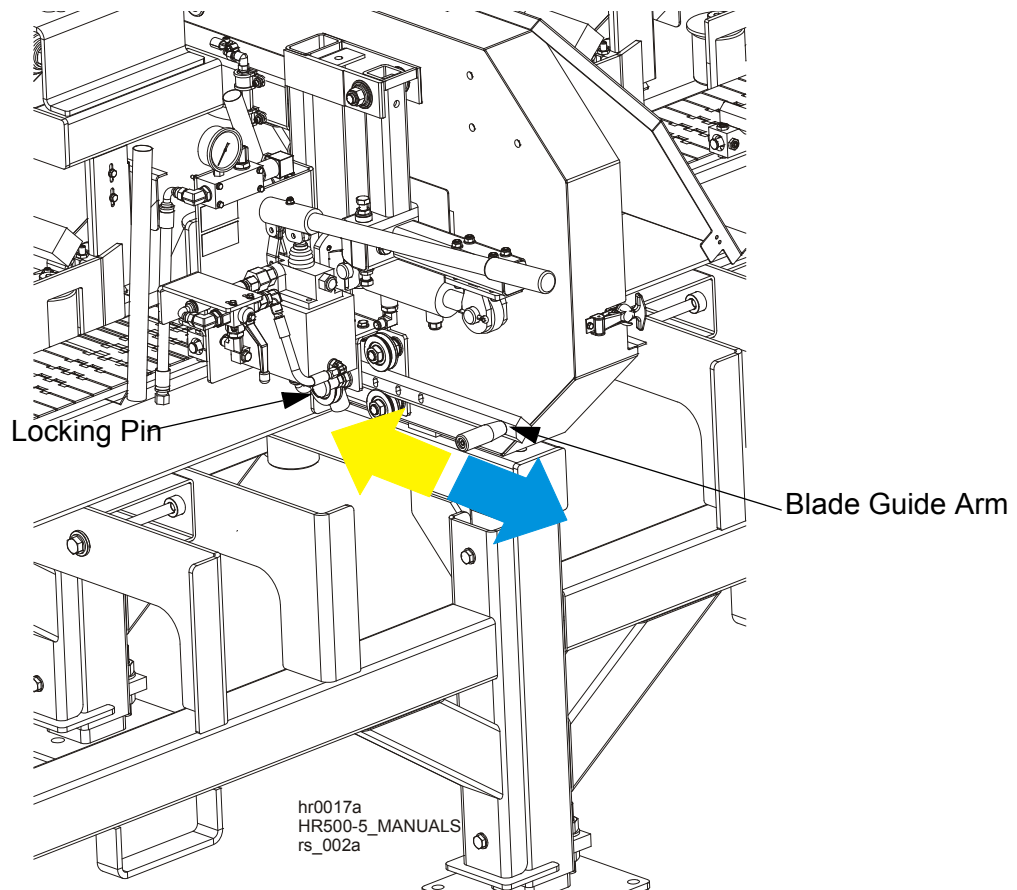

FIG. 2-20
**See Figure 2-20.** To move the blade guide arm, unlock the locking pin and slide the arm in or out. Lock the locking pin.